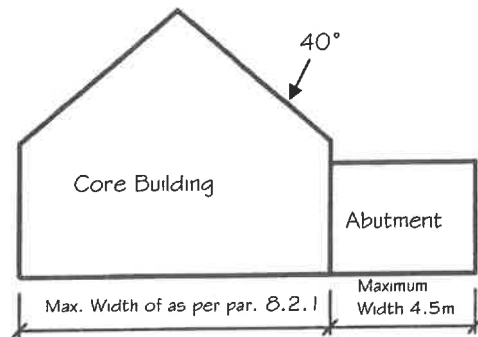

Figure 17: Section showing maximum width allowed for abutments to the core building
- d) ABUTMENT HEIGHT - The maximum height of an abutment may not exceed 3060mm above the finished floor level (Figure 17). The minimum space between the wall plate of the core building and the top of an abutment shall be 250mm.
- a) The width of any abutment to the core building may not exceed 4.5 metres as shown in Figure 17 below.